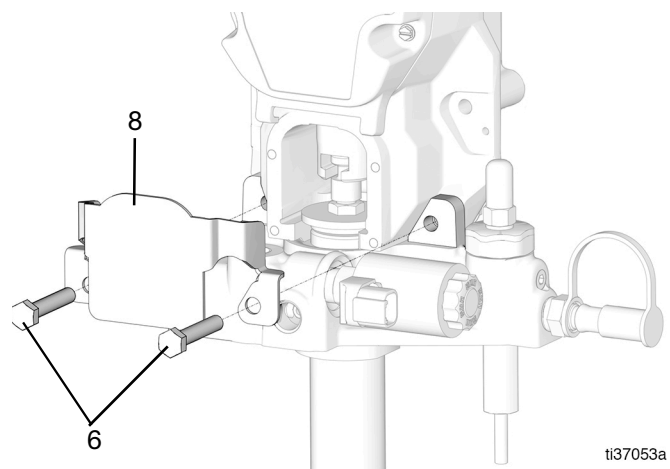

FIG. 32
- Remove the two bolts (6) and two nuts (not shown) from the protective cover (8) (FIG. 32).